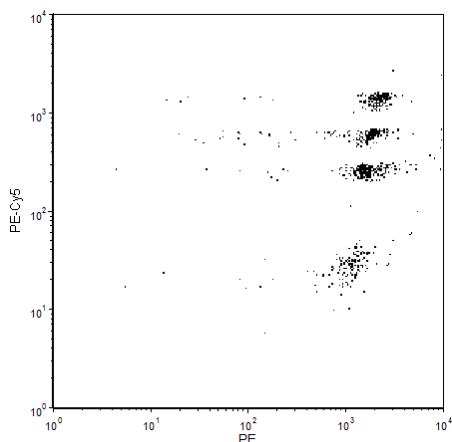

Figure 4
- 3) Apply proper "PE-Cy5" - %PE color compensation so that the bead populations are in a horizontal position (see Figure 4 as an example of proper color compensation setting).